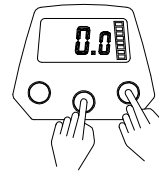

Figure 10-1-1
- 1、 Press "RESET" and "MENU" at the same time in the state to enter the setting function (Figure 10-1-1).